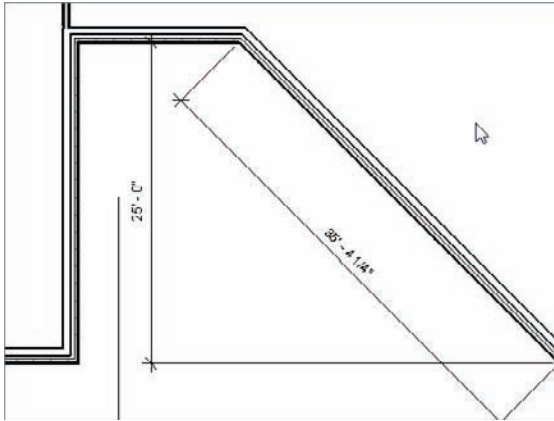

FIGURE 5.18 Changing the dimension to reflect the new rounded dimension
7. Press Esc. See Figure 5.18 for the completed dimension.